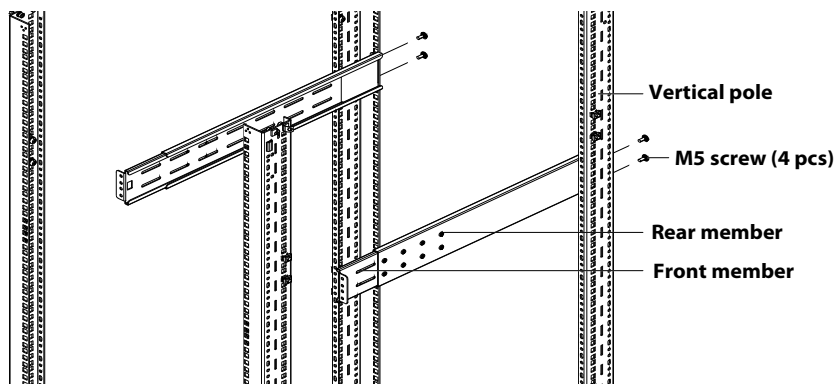

Figure 9: Installing rear member of each bracket assembly
4. Attach the rear member of each bracket assembly to the rack’s rails with two factory-supplied M5 screws (see Figure 9).